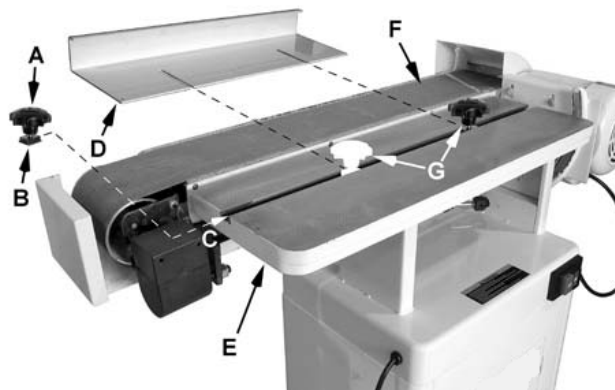
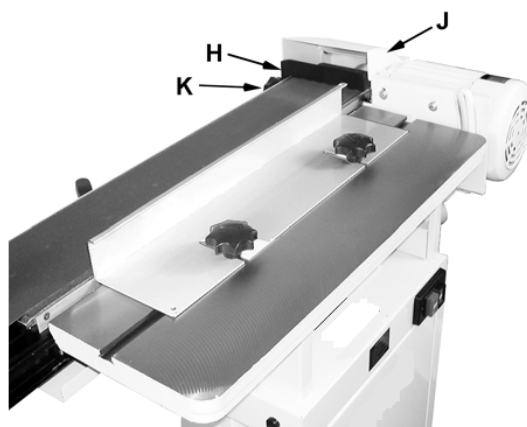
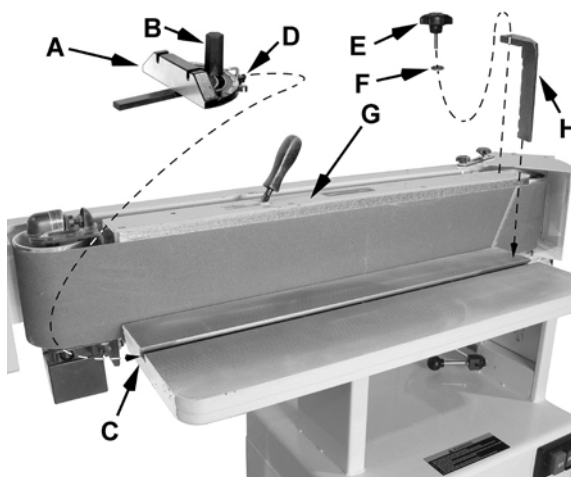

Figure 16
Figure 17
Figure 18
Referring to Figure 16:
1. Place 5/16" *flat washers* (not shown) and *guide blocks* (B) on two 12mm *lock knobs* (A) – Note: the 12mm refers to the threaded shaft length.
2. Insert the *guide blocks* (B) into the *miter slot* (C) and position the *lock knobs* (G) on the *table* (E) as shown.
3. Place the *removable fence* (D) on the table and secure by tightening the *lock knobs* (G, Fig. 16 and Figure 17).
The *backstop* (H, Fig. 17) can also be used by swiveling the *drum guard & dust port* (J, Fig. 17) out of the way and placing the backstop pin in the positioning hole and securing in place with the *lock knob* (K, Fig. 17) and 5/16" *flat washer*. **Note:** This is better shown in Figure 18. The *drum guard & dust port* (J, Fig. 17) can then be returned to the position shown.
Referring to Figure 18: